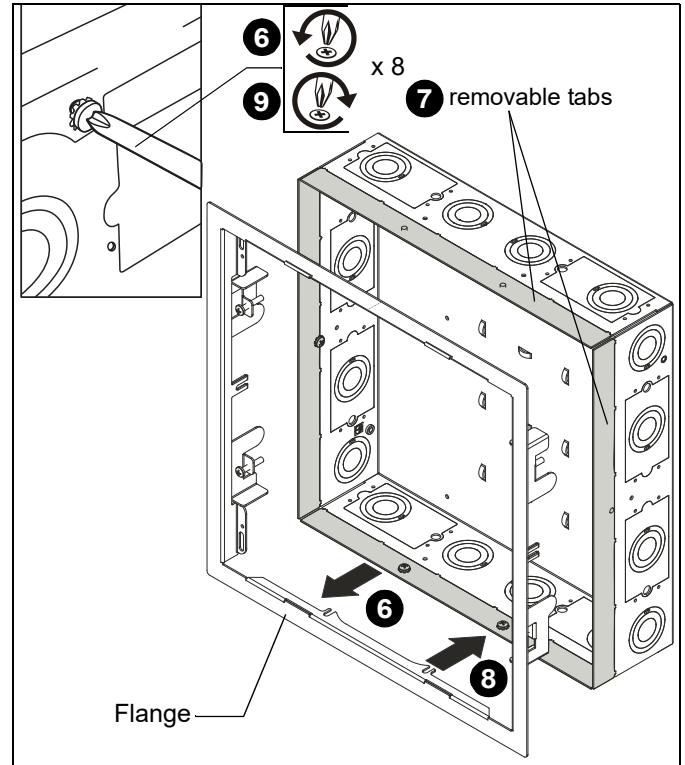

Figure 2
6. If present, remove box flange by loosening screws. (See Figure 2)